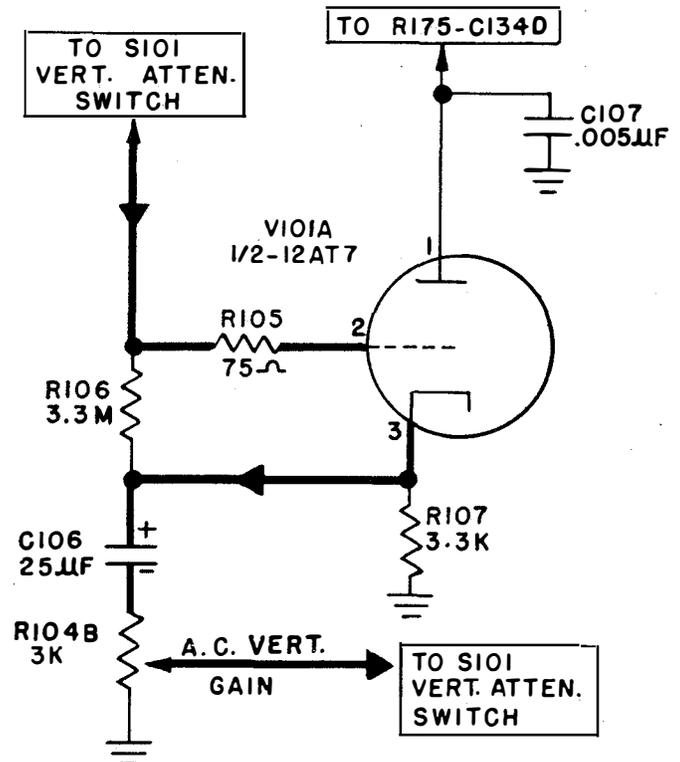

Figure 2-3. Vertical Cathode Follower
(2) CATHODE FOLLOWER. (See Figure 2-3)